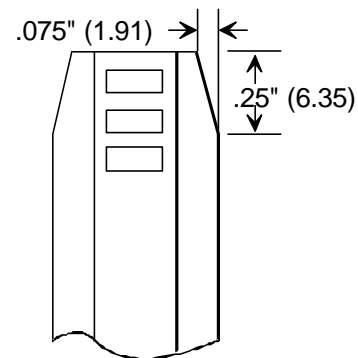

Figure 2-6. Proper Chamfering of Scale Ends
3. See Figure 2-6. Use a file or grinding tool to chamfer the cut end to the specifications shown in the illustration.